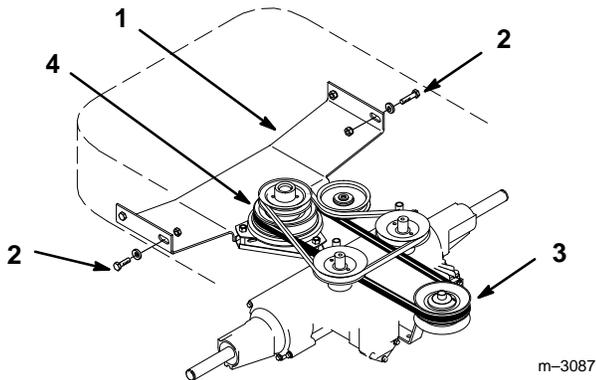

Figure 32
3. Remove front mounting bolts and loosen rear mounting bolts from clutch stop plate, allowing plate to swing down (Fig. 32).
4. Push PTO idler pulley rearward and remove PTO belt from idler and clutch pulleys (Fig. 32).
5. Install new belt over clutch pulley (Fig. 32).
6. Move idler rearward and loop belt into top idler pulley groove (Fig. 32).
7. Swing clutch stop plate up and secure in position with previously removed hardware (Fig. 32).